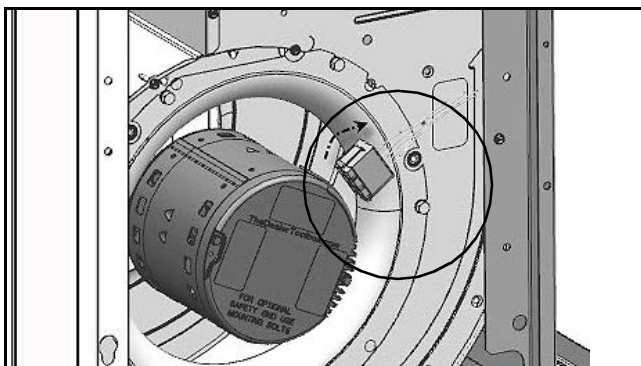

Fig. 11
2. Disconnect the blower motor wiring and ground wire fastened to blower housing. (See Fig. 11.)